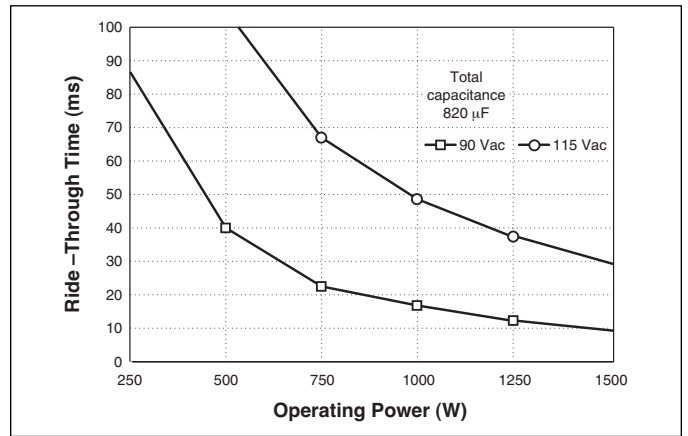

Figure 7-9 — Ride-through time vs. operating power
**Determining Ride-through Time.** Figure 7-9 illustrates ride-through time as a function of line voltage and output power, and shows that at a nominal line of 115 Vac, ride-through would be 68 ms. Ride-through time is a function of line voltage.